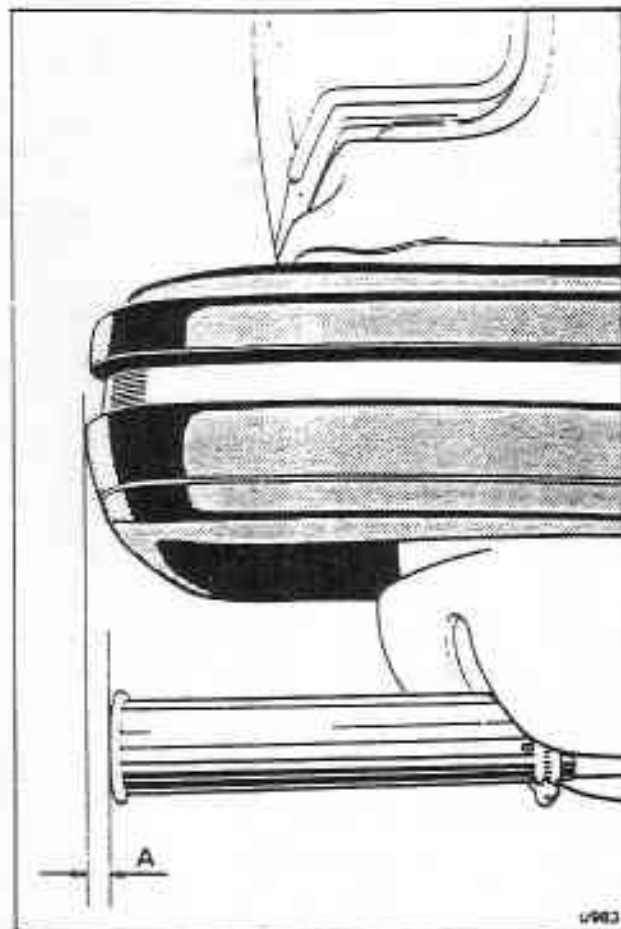

Fig. Q3-3 Tailpipe finisher setting
7. Set the tailpipe finishers 15 mm (0.60 in) in from the outer edge of the bumper (see fig. Q3-3).